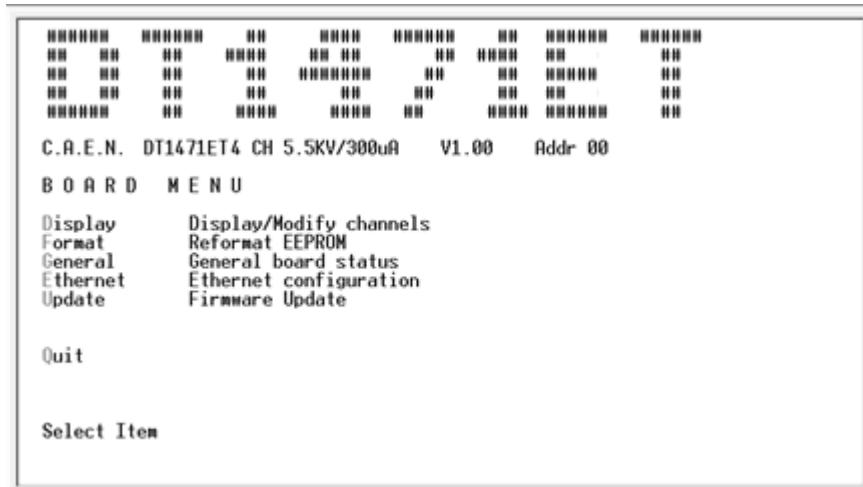

Fig. 25: Terminal Board Menu
- go to Terminal Board Menu (Fig. 25)
By typing F on Terminal Board Menu (Fig. 25) it is possible to access the format EEPROM menu.
By typing D on Terminal Board Menu (Fig. 25) it is possible to access channels settings
By typing G on Terminal Board Menu (Fig. 25) it is possible to monitor the General Board Status